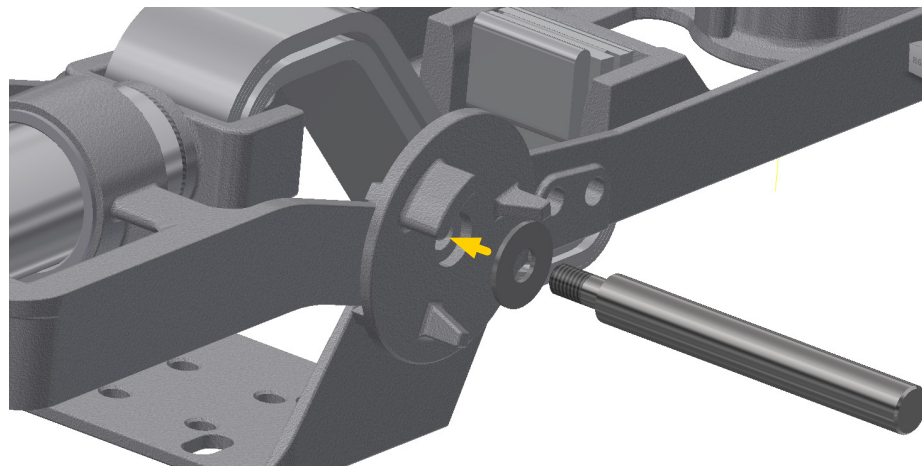

Figure 14. Backup Plate and Hinge pin installation
4. Install the new hinge pin and backup plate casting (Figure 14) required for the counterbalance assembly by threading the hinge pin in by hand or with the adjustable wrench. The grooves of the backup plate should fit over the blade support casting.